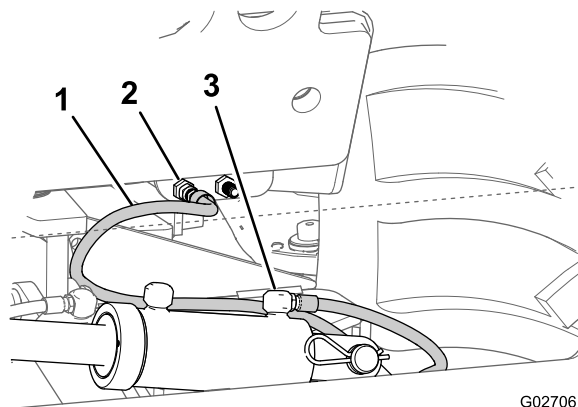

Figure 42
3. Connect the tilt cylinder extend hose (3/8 x 49-1/4 inch) between the bulkhead fitting for the tilt cylinder extend circuit at the left-hydraulic panel. and the extend port of the tilt cylinder (Figure 42).